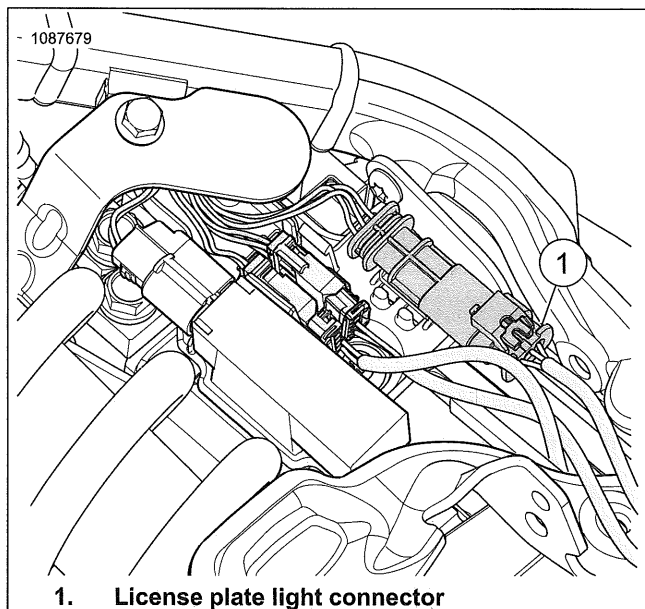
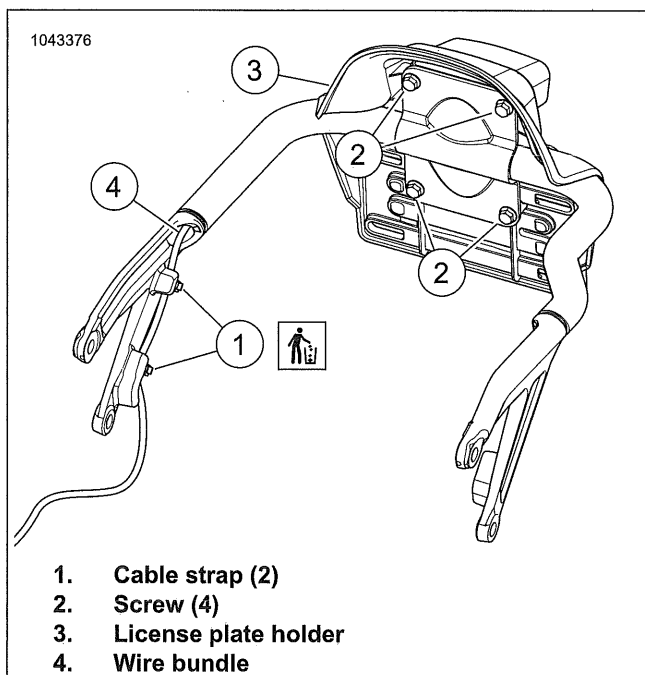
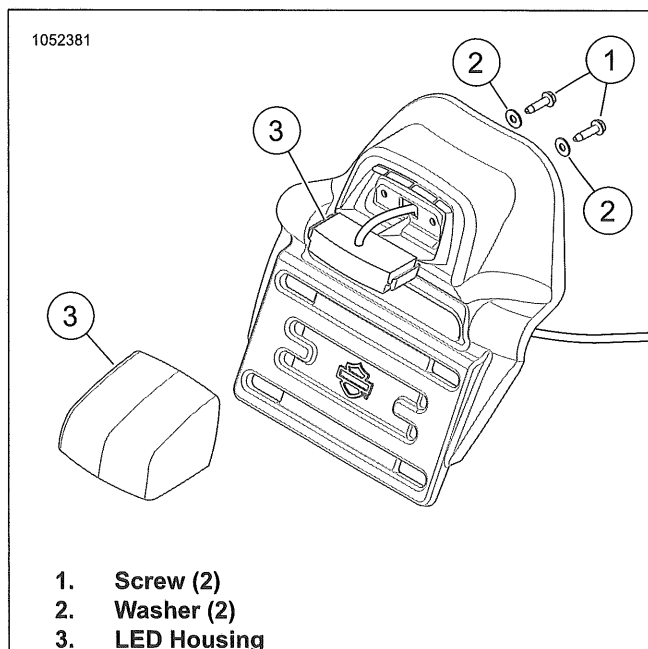

Figure 7-104. License Plate Light Connector
Figure 7-105. License Plate Holder
Figure 7-106. License Plate Mount LED Housing
1. See Figure 7-104. Disconnect license plate connector (1).
2. Disconnect pins from connector (1). See electrical diagnostic manual.
3. See Figure 7-105. Discard cable straps (1).
4. Remove screws (2).
5. Remove license plate holder (3).
6. Remove wire bundle (4) from frame.
7. See Figure 7-106. Remove screws (1) and washers (2).
8. Remove LED housing (3).
1. See Figure 7-106. Install LED housing (3).
2. Install screws (1) and washers (2). Tighten.
3. See Figure 7-105. Route wire bundle (4) through frame.
4. Install license plate holder (3).
5. Install screws (2). Tighten.
6. Route harness and install **new** cable straps (1).
7. Connect pins to connector (1). See electrical diagnostic manual.
8. See Figure 7-104. Connect license plate connector (1).